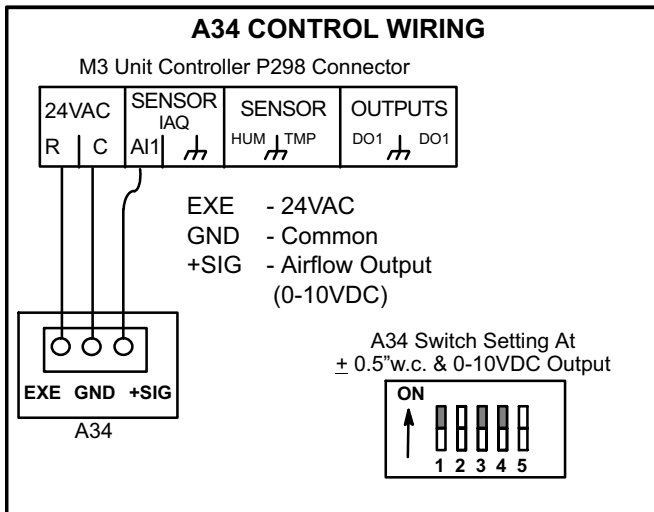

FIGURE 4
- 4- Remove the A34 sensor cover and connect field-provided three-wire cable (22AWG) as shown in figure 4. Use an approximately 4-foot length of cable for 092-152 units and 10-foot length of cable for 156-300 units.
- 5- Set the A34 control DIP switches to a pressure range of -0.5 to 0.5" w.c. and 0-10VDC output. See figure 4.